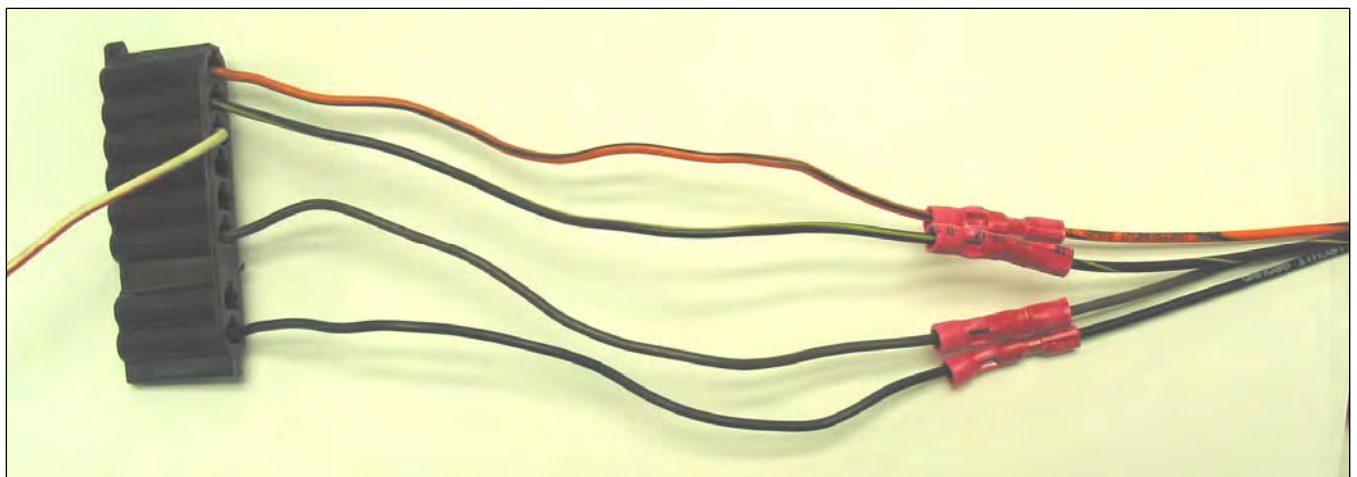

Figure 7.5.5 *Right Column Connector*
- 7.5.5** Splice the RIGHT COLUMN CONN. wires to the connector that goes to the Indicator Light Circuit Board to the right of the steering column. The factory connector will contain the following wires: *black, brown, white/orange, black/ yellow, & orange/black.* Connect the Painless wires to the factory wires as shown in **Diagram 1.** Also see **Figure 7.5.5**